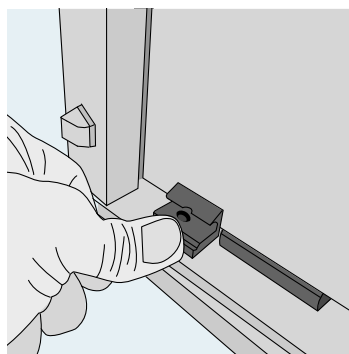

Figure 2
10. Install the supplied list blocks (figure 2):